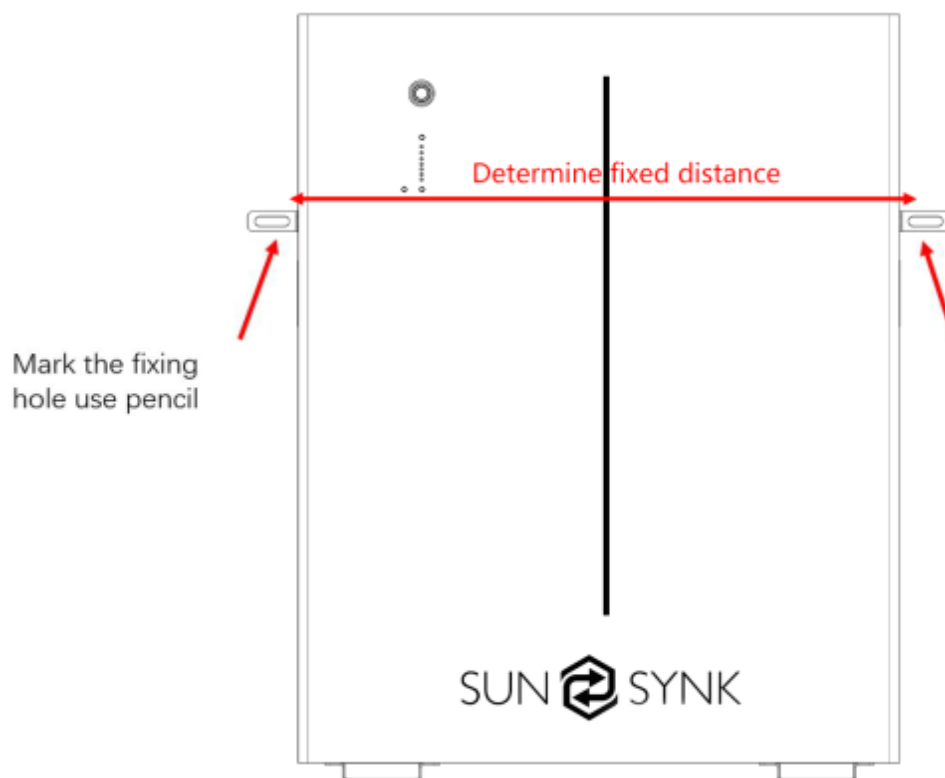

Figure 5-5
2. Choose the recommended drill head (as shown in the figure below) to drill two holes in the wall, 100 to 110 mm deep, as shown in Figure 5-2 and Figure 5-5.